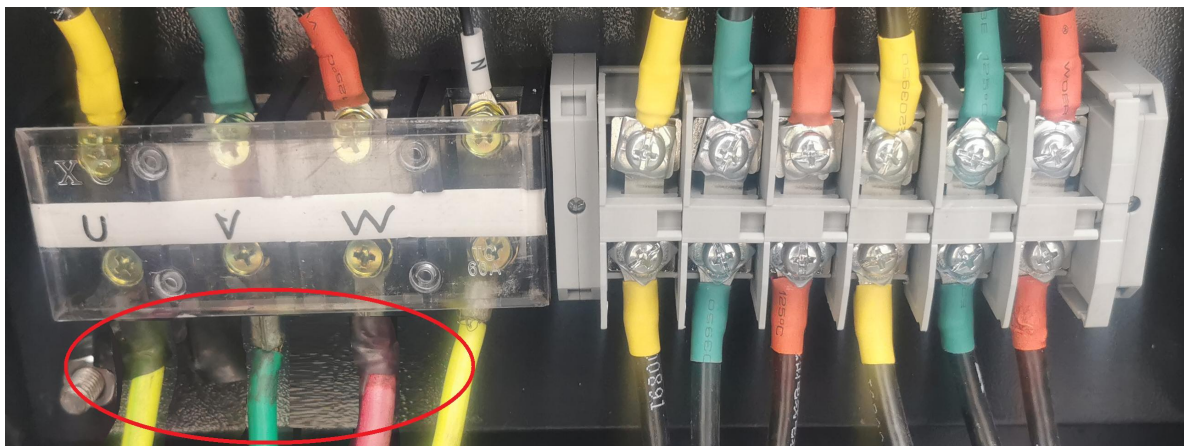

Figure5.3
- Use the key to open the circuit chest. Connect the circuit to the pelletizer. Refer to Figure 5.3 below.